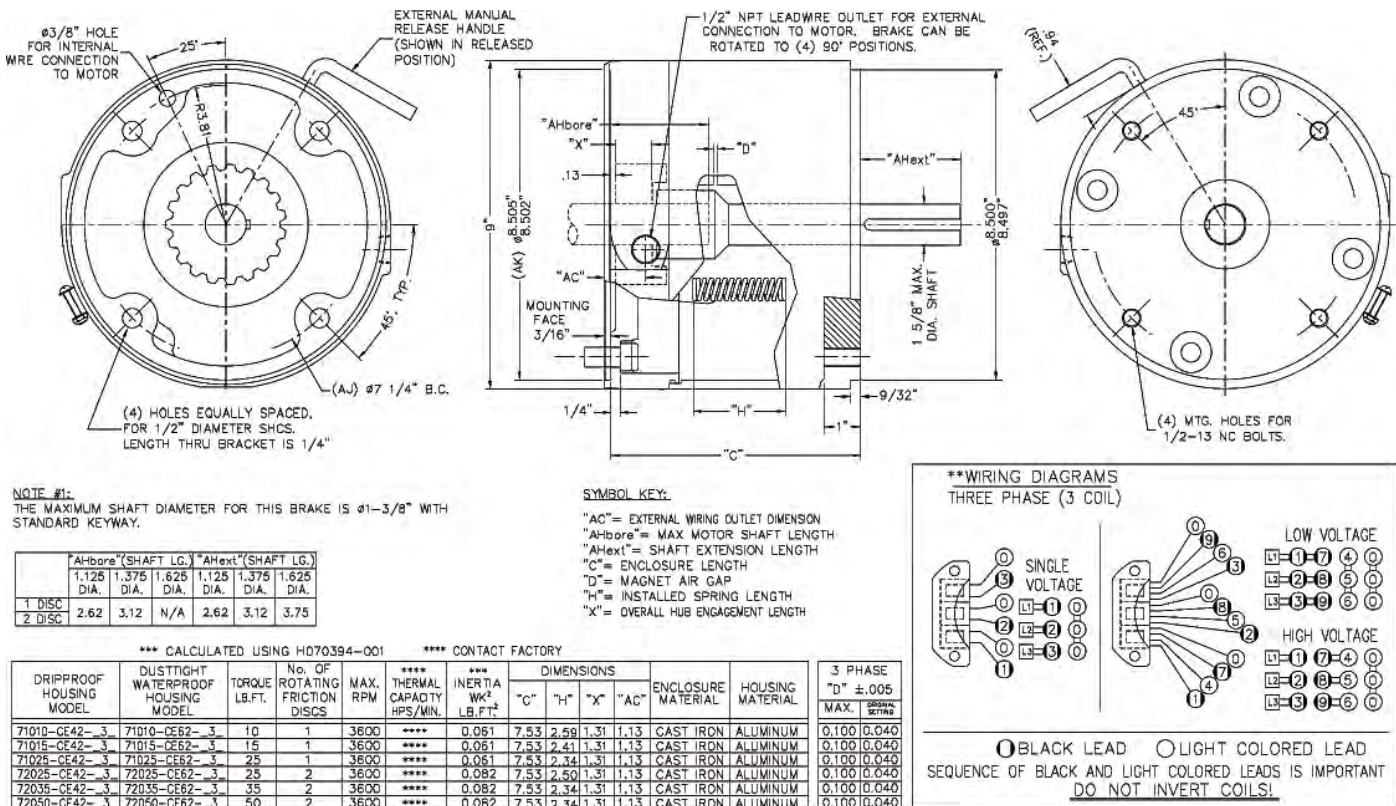

Figure 1 - Brake Outline
INSTALLATION (See Figures 1, & 2, Table 1)
1. Remove hub (99) from brake and position on motor shaft with key according to dimension "N" per figure 1. Stamped part number on hub should face away from motor. Tighten hub set screws with 18 lb.ft. torque.
3. For IP56 (NEMA4) version, place gasket (91) onto motor side mounting face with mounting holes aligned.
4. Place brake on motor, guiding discs onto and through the hub. For IP56 (NEMA4) version, use caution not to pinch or damage the gasket (91).
5. Insert and install the 1/2 SHCS through the housing windows at four spots and secure and tighten each one to motor "C" face using an extended length ball end hex key brake. See Figure 1 to help in determining proper bolt length. Final bolt thread pitch, length and mounting torque is dependent on the material and depth of the threaded holes in the mounting face.
9. Connect coil leads per appropriate wiring diagram in Figure 1.
Before air gap "D" reaches .100", adjustment is required. Any delay in adjusting the magnet air gap will result in eventual loss of torque. Refer to Fig. 1 & 2.
The magnetic disc brake is factory set for rated static torque. The brake can be adjusted to reduce torque which increases stopping time. Do not attempt to adjust brake for higher torque, as this will cause premature coil burnout. (Refer to Fig. 1 & 2)
- 5. Re-assembly of electromagnet assembly (15) Refer to Fig. 1 & 2.**
7. Reset spring height according to brake model number in Fig.1 from the top of the spring (42) to the bottom of the pressure plate (32).
4. Replace with new magnet assembly (50A) and install nuts and washers (59, 60, & 61). Nut (61) should be torqued to 20 lb-ft.
5. Place coil lead wires around mounting bracket (1) to the same side as the wire outlet position or internal wire outlet. Connect coil lead wires per Fig. 1.